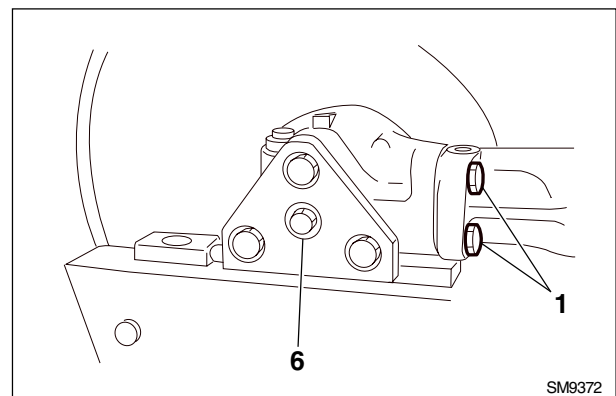

Fig. 5-19
1. Split the track chain (see item 5.4.1 **TRACK CHAIN - removal**).
3. Remove screws (1 fig.5-19) securing the idler supports.